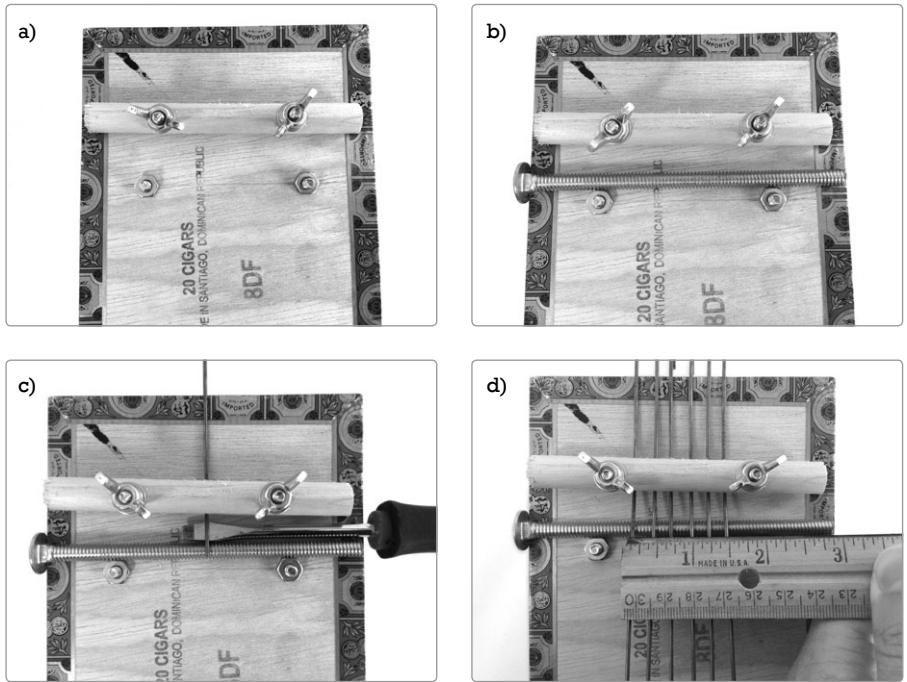

FIGURE 11-11: *Installing the saddle and tines*
- Step 9** Complete the acoustic construction of the kalimba by adding the six steel tines. As shown in Figure 11-11, the carriage bolt—which serves as the instrument’s saddle—will rest against the tops of the two hexagonal saddle-block nuts. Because we want the saddle to rest evenly against these and run parallel to the top edge of the kalimba, we’ll want to make sure these nuts are twisted around so they are identically oriented, with flat sides parallel to the top and bottom edges of the soundboard (see Figure 11-11a). Next, lay the 5-inch-long, 1/4-inch-diameter carriage bolt snug against the aligned nuts (see Figure 11-11b). You want the saddle to rest flat on the soundboard, so either saw off its head or let it hang off the edge of the box.